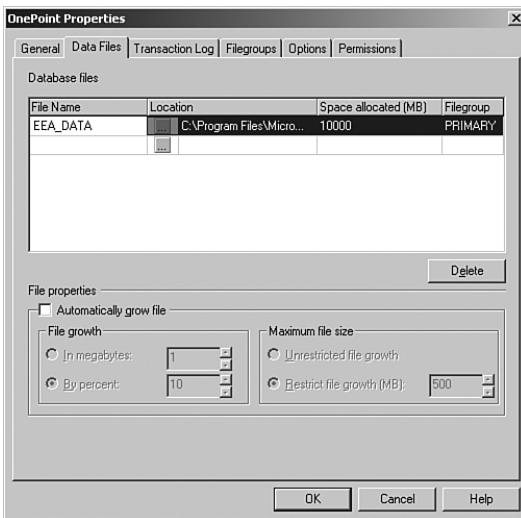

FIGURE 10.16 The data files properties for the OnePoint database.
3. Use the SQL Enterprise Manager (SQL Server 2000) or SQL Server Management Studio (SQL Server 2005) to modify the database properties. Navigate to the OnePoint database and then right-click and select Properties. Click on the Data Files tab (or the Files Page in Management Studio) to bring up a window similar to that displayed in Figure 10.16.